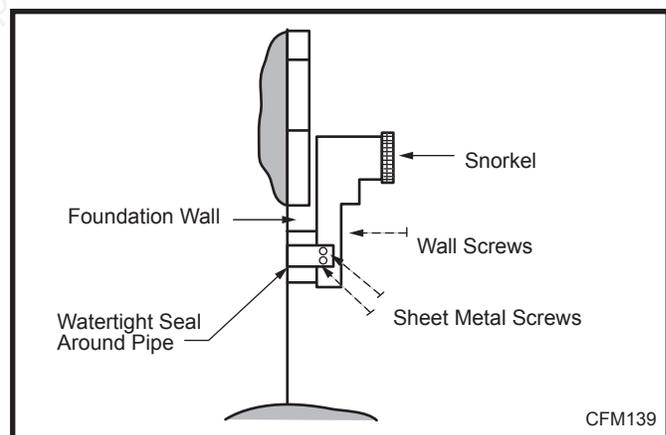

Fig. 29 Snorkel installation / recessed foundation.
7. Level the soil so as to maintain a 4" (102 mm) clearance below snorkel. (Fig. 29)
If the foundation is recessed, use recess brackets (not supplied) for securing lower portion of the snorkel. Fasten brackets to wall first, then secure to snorkel with self drilling #8 x 1/2 sheetmetal screws. It will be necessary to extend vent pipes out as far as protruding wall face. (Fig. 29)